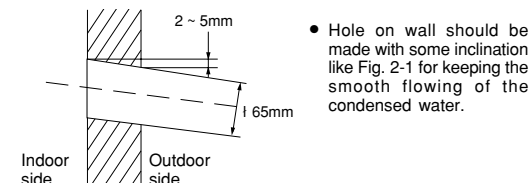

Fig. 2-1
- 2.1 Make a hole on the wall such the place as shown in Fig. 2-1, in order to keep the flow condensed water smooth.